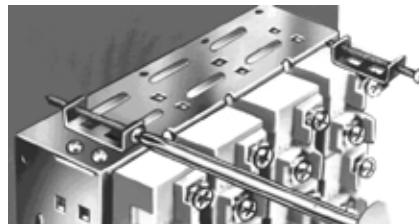

Figure 9: Multiple Combination
**Multiple combination units:** Insert the units into the panel cut-out from the front. Install the attached mounting clips into the openings on the frame, and tighten the screws as shown in Figure 9. After tightening, use Loctite to prevent loosening. The number of mounting clips included with each multiple unit varies with the number of windows as shown in the table below.